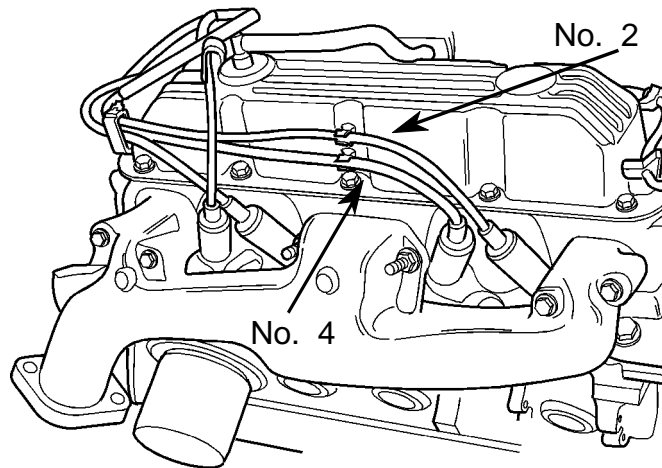

FIGURE 4
3. No. 4 Cylinder Plug Wire Routing (Figure 4 and 5)